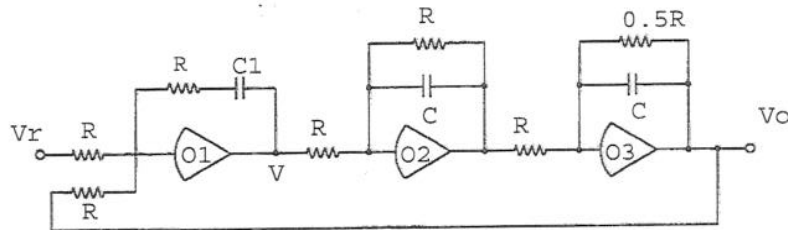

Figure 2
2. Consider the feedback arrangement shown in Figure 2 which is used to simulate a control system. The operational amplifiers  $O1$ ,  $O2$  and  $O3$  are in the negative feedback mode, so that the positive input terminal is earthed and the inputs are connected to the negative terminals. Assume that the operational amplifiers are ideal, so that we can make the virtual earth assumption.